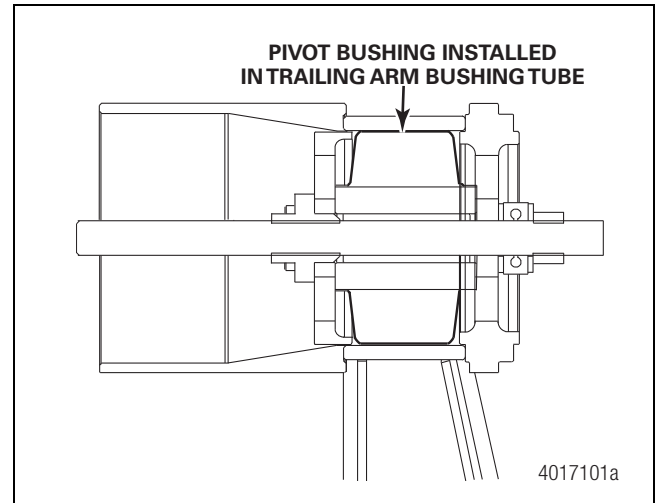

Figure 6.15
11. Turn the draw bolt **CLOCKWISE** using a 1/2-inch impact wrench at a reduced and steady speed to draw the bushing into the trailing arm bushing tube. Figure 6.15.